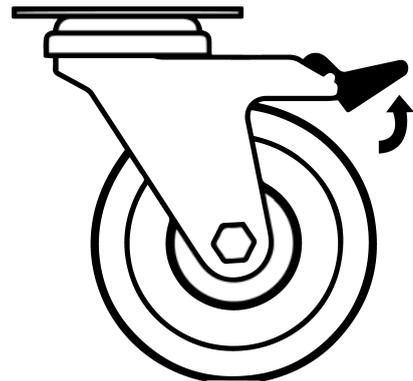

Fig 2. Castor Unlocked
- Please ensure when placing the freezer into place that the castors can be accessed so they can be locked (**Fig 3**) and unlocked (**Fig 2**). Please get in touch with your supplier or Thermoline should there be any castor damage.